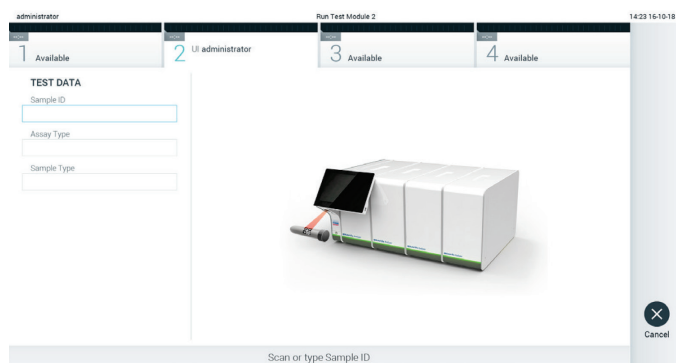

Figure 23. Scanning the sample ID bar code.
2. When prompted, scan the sample ID bar code using the bar code reader that is integrated into the Operational Module (Figure 23).